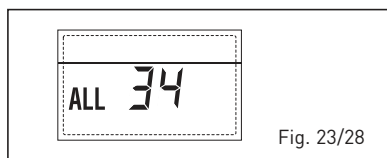

Fig. 23/28
- ANOMALIE COMMUNICATION CARTE RS-485 ET CARTE RS-485 "ALL 35" (fig. 23/29)